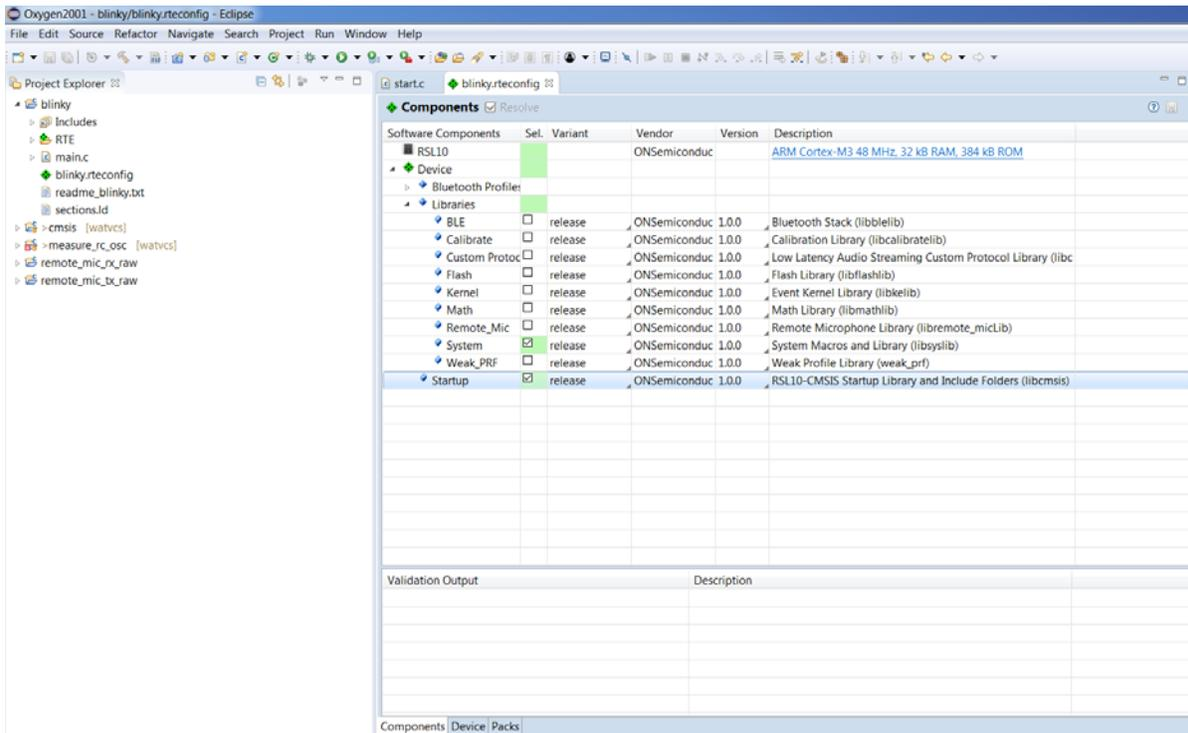

Figure 12. RTE Configuration For the Blinky Example Project
3. The C/C++ perspective opens and displays your newly copied project. In the **Project Explorer** panel, you can expand your project folder and explore the files inside your project. On the right side, the *blinky.rteconfig* file displays software components. If you expand **Device > Libraries**, you will see the **System library** (*libsyslib*) and the **Startup** (*libcmsis*) components selected for *blinky* (see Figure 12 on page 15).
NOTE: Sample projects are preconfigured with *Release* versions of RSL10 libraries, which are distributed as object files. In the RTE configuration, you can switch to the *Source* variant to include the source code of the library directly into your project (see Figure 12 on page 15).